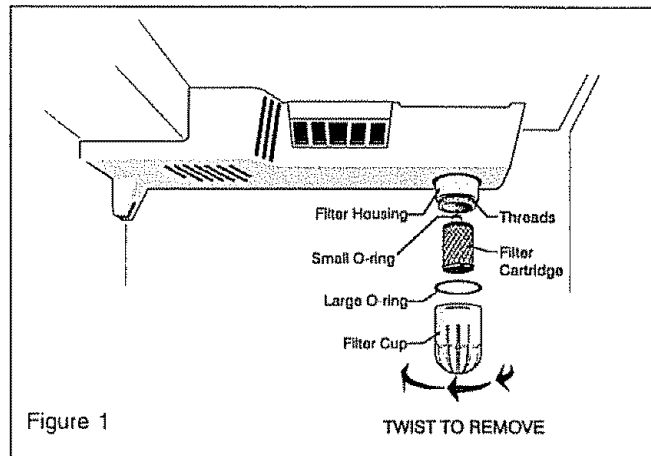

Figure 1
This ice and water filter system filters water to your ice maker and water dispenser. It is located in the upper right back corner of the fresh food compartment (See Figure 1).
Water supply does not need to be turned off, however do not use ice and water dispenser while installing filter. Refer to Figure 1 as you complete these instructions.
Refer to Figure 1 as needed. It is not necessary to turn the water supply off to change the filter.
2. Hold filter cup firmly, and unscrew counter clockwise (Figure 1). (Some water could leak out as you remove cup. This is normal.) Filter cartridge should come down with cup. If cartridge remains in housing, pull down gently, while twisting filter back and forth.
4. The large o-ring (Figure 1) that seals the filter system sets in the o-ring groove down inside the cup. Should the o-ring fall out during filter cartridge replacement, simply place it back in the groove prior to screwing the cup back in place. If the o-ring becomes damaged, you will need to order one from the Consumer Assistance Center.
drops from the filter cup. Run a glass of water. If there is a leak, unscrew filter cup, and reinsert the filter cartridge. Check placement of large O-ring (see Figure 1). Reinstall filter cup, making certain it is tightened completely.